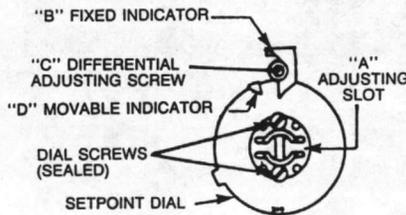

FIGURE 1 — MODELS T316, T317 & T319.
A. Models T316, T317 and T319: See Figure 1. First, insert a screwdriver in adjusting slot "A" and turn the setpoint dial until the lower differential temperature is at indicator "B" ("cut-in" for T317, "cut-out" for T319, Red to Blue for T319). Then turn slotted differential screw "C" until movable indicator "D" is at the higher differential temperature ("cut-out" for T317, "cut-in" for T318, Red to White for T319).